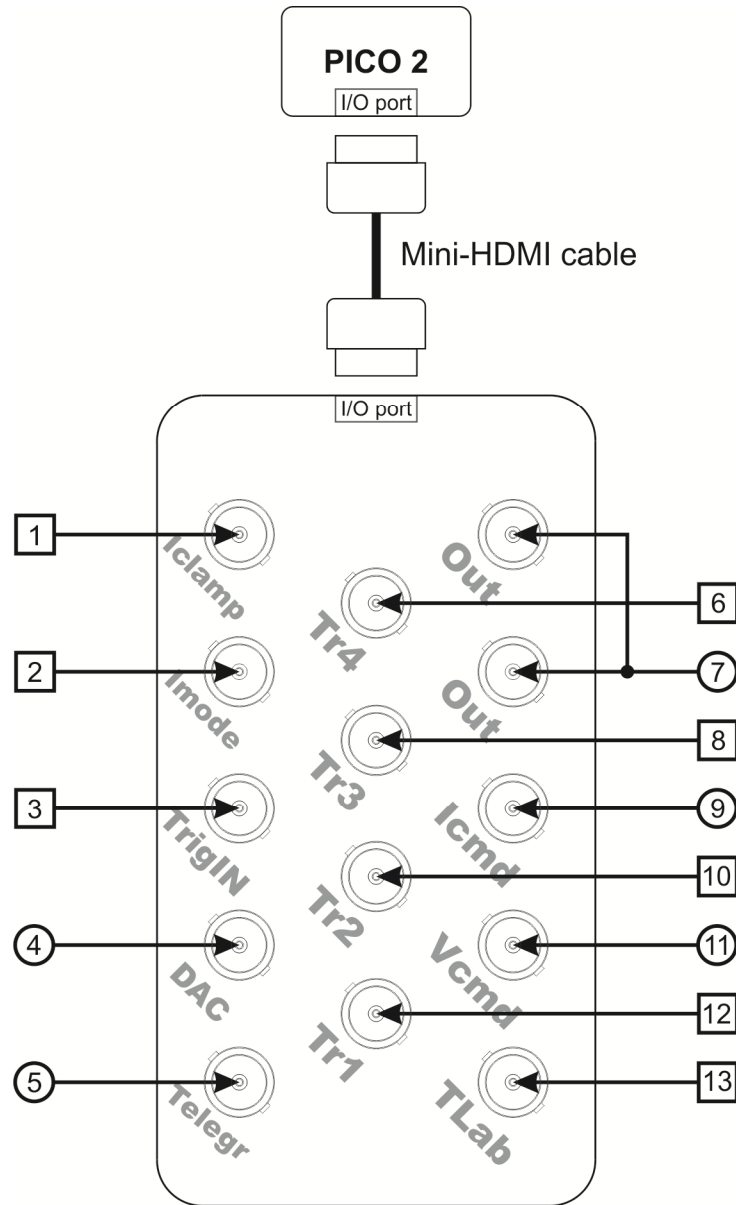

Figure 1. Breakout Box Front Panel
Figure 1 shows the front panel of your Breakout Box.
3. Insert the remaining Mini-HDMI connector into the I/O port of the Breakout Box. This I/O port can be found at the side of the Breakout Box, see **Figure 1**.
5. Connect BNC cables (50 Ω) to the BNC connectors of interest on the front panel. Please see **Figure 1** and **Table 1**.